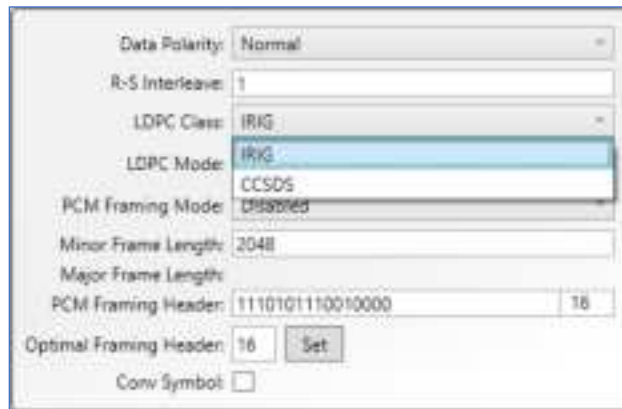

Figure 168: Encoder Hamburger Menu, LDPC Class Drop Down Menu
- R-S Interleave – Controls the interleaving depth, in Reed-Solomon codewords; Maximum value of eight (8); An interleave depth of 1 is equivalent to no interleaving.
- LDPC Class – Selects the class of LDPC encoding, either standard IRIG or CCSDS, as shown in Figure 168